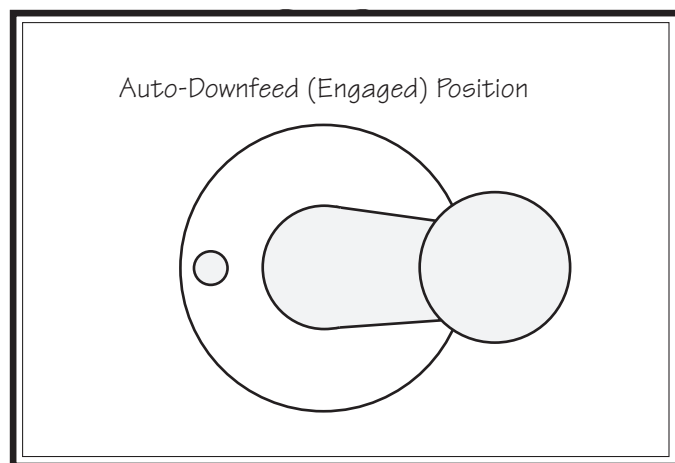

Figure 43. Downfeed selector in the auto-downfeed (engaged) position.
2. To set the mill for auto-downfeed, pull the downfeed selector knob out, then rotate the selector clockwise and seat the pin in the rear auto-downfeed (engaged) position, as illustrated in **Figure 43**.